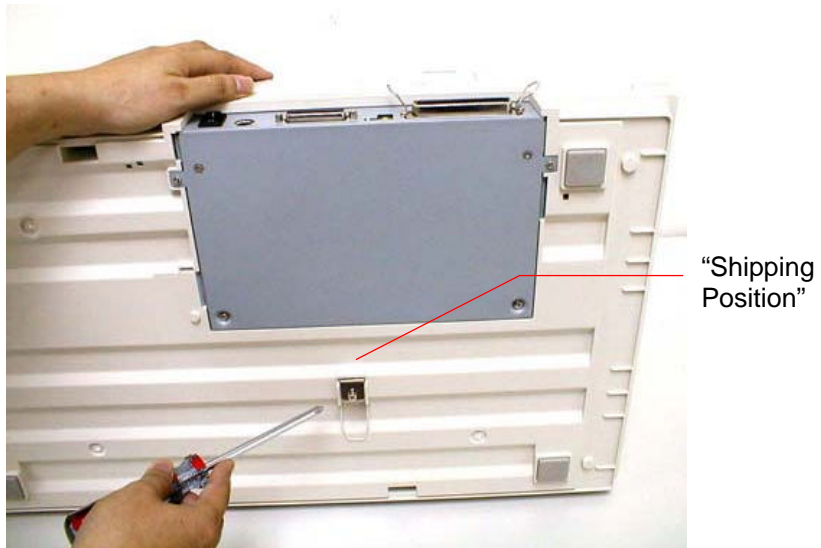

Figure 2-1 Removing the Shipping Bracket
- ii). Using a suitable screwdriver, remove the screw and pull out the shipping bracket.(See Figure 2-1)
Note: For steps (iv) to (vi) please refer to Figure 2-1 and 2-2.